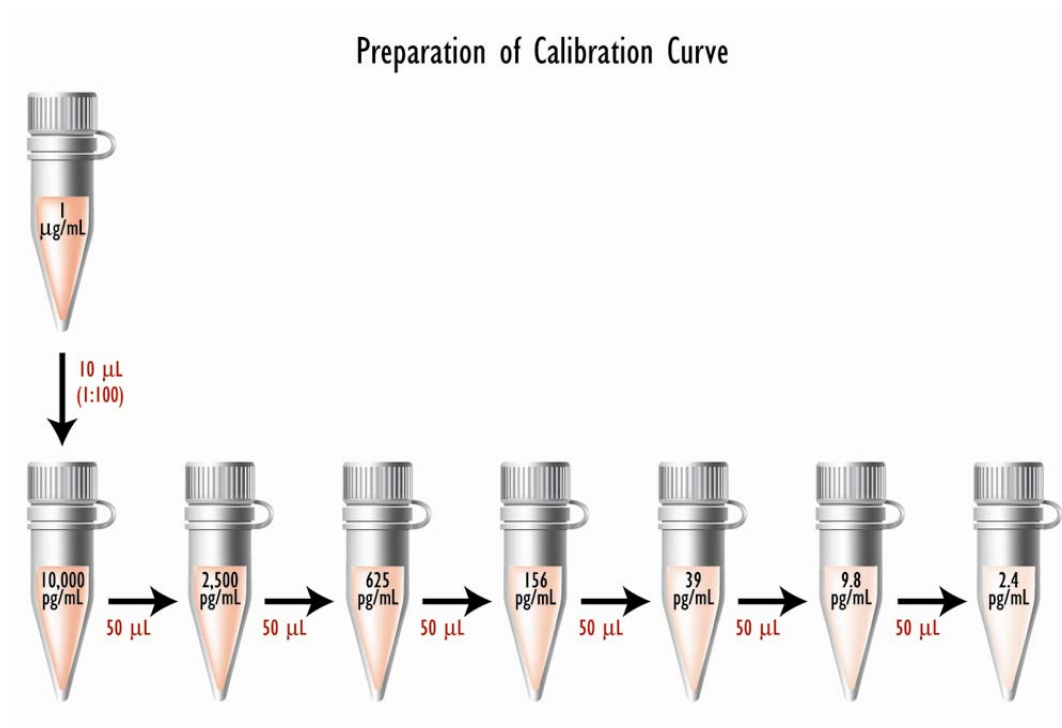

Figure 3. Calibration curve preparation from stock solution (1 µg/mL).
- 2. Addition of Sample or Calibrator:** Dispense 25 μ L of each Calibrator or Sample Solution into a separate well of the MSD plate. Figure 3 illustrates one plate arrangement of calibrator solutions that can be used to evaluate the performance of the assay. Seal the plate with an adhesive plate seal and incubate for 1 to 2 hours with vigorous shaking (300-1000 rpm) at room temperature. In general, shaking the plate results in better mixing and more rapid binding of the sample to the capture antibodies. If a protocol without shaking is preferred, a longer incubation time (4 hours or longer) may be required to achieve the same sensitivity.